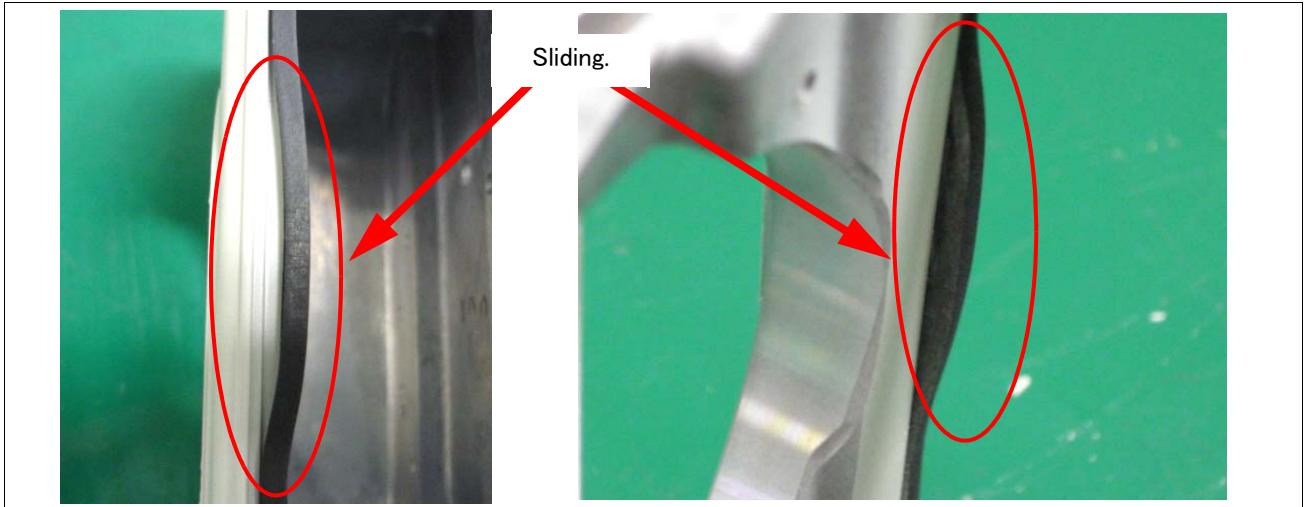
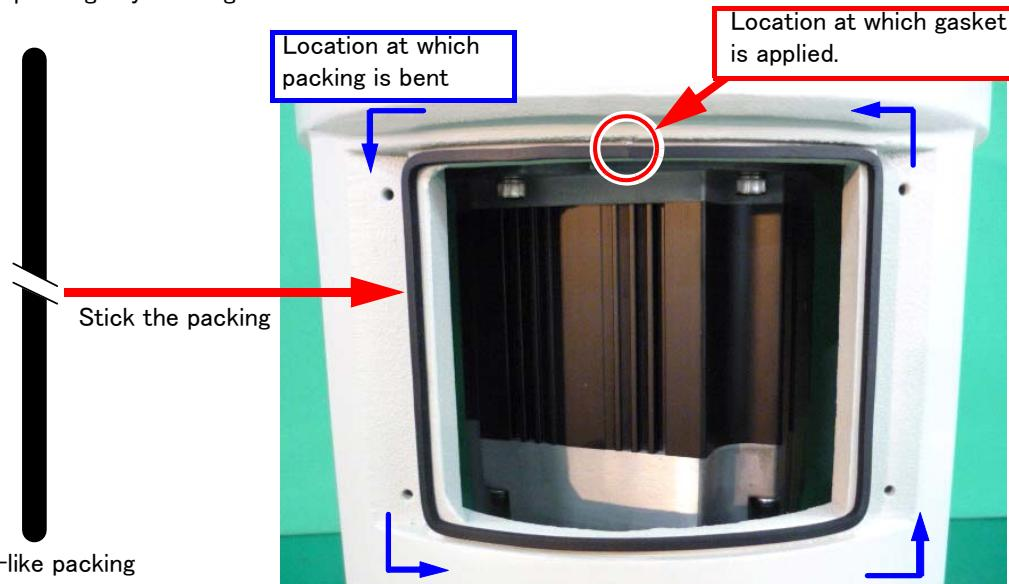

Fig.5-5 : Example of sticking packing (bad example)
Fig.5-6 : Sticking the cord-like packing
- 2) The sticking surface of packing is double-coated adhesive tape. Referring to "Fig.5-4 : Example of sticking packing \(good example\)" and "Fig.5-6 : Sticking the cord-like packing", and stick the packing in line with form . Be careful for the packing not to slide. The example of unsuitable packing slid is shown in "Fig.5-5 : Example of sticking packing \(bad example\)".